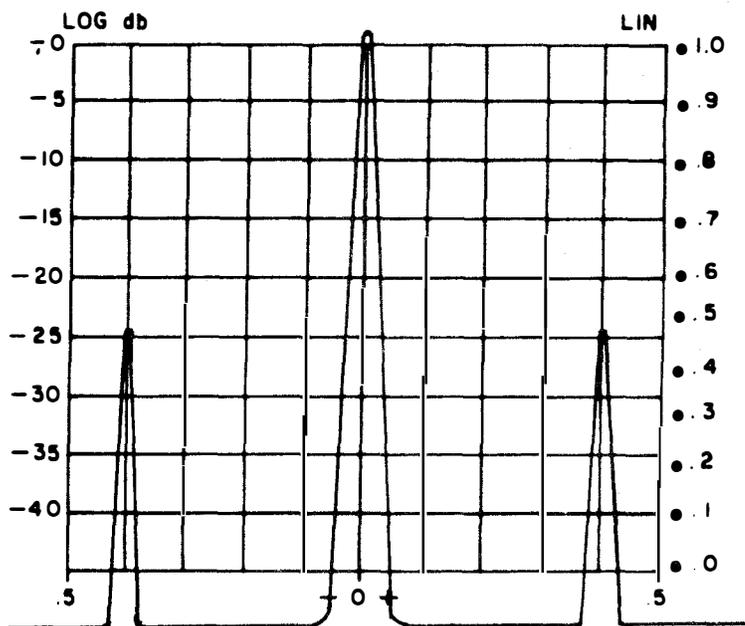

FIGURE 3-2
- a.   Figure 3-2 shows a 500kc signal modulated at 800cps' SWEEP WIDTH in 2kc. Amplitude SCALE set on LOG position.